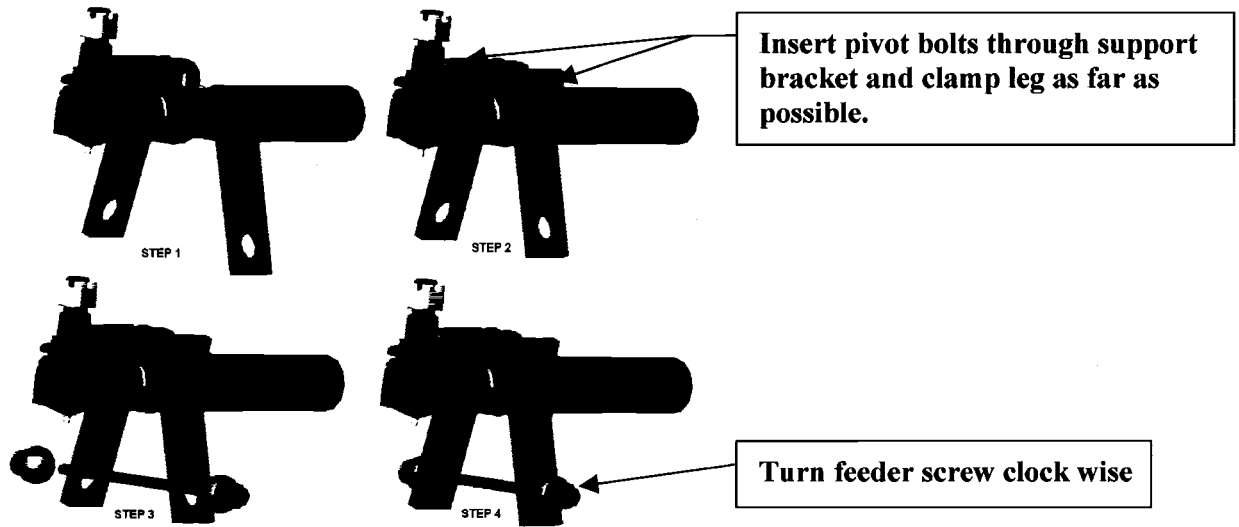

Figure 2
3.- Install removing device in clamp. Figure 2.